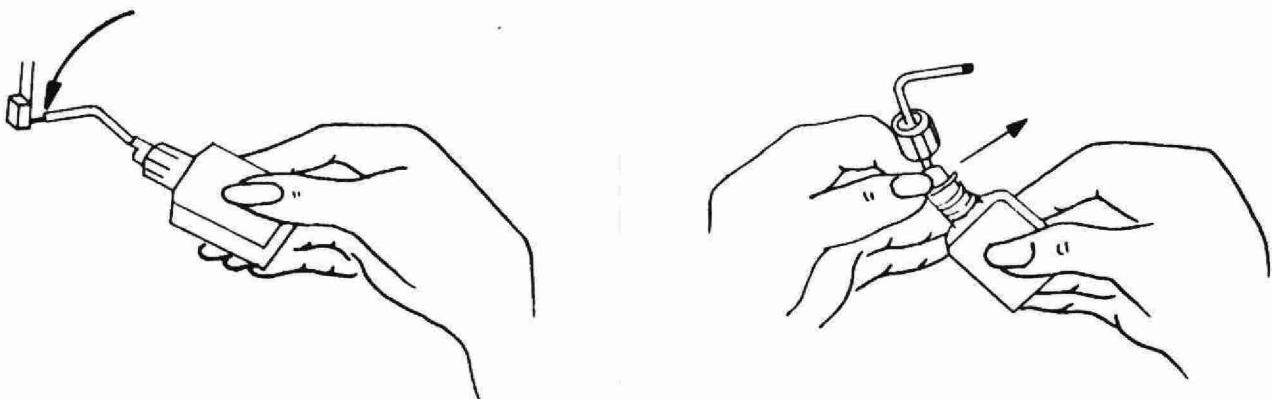

Figure 8-3 INKING A BOX PEN
c) Fill through the tip with the plastic ink bottle as shown in Figure 8-3. This method of filling insures against air bubbles or other obstruction, and also primes the pen for quick starting. Put in no more ink than is estimated necessary. If there is doubt, a clean pen may be filled full the first time, but after that, the ink level should be kept as low as possible for cleanest lines and shortest drying time.